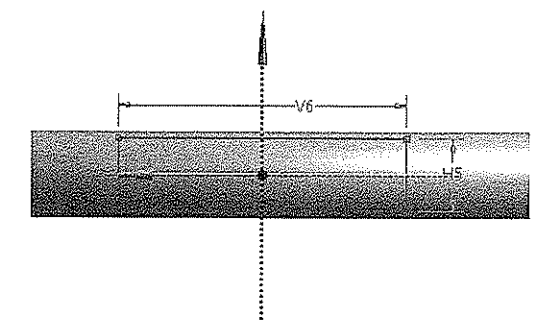

Figure 5-47 The sketch after the horizontal lines are made symmetric
22. Select the bottom horizontal line of the rectangle as the second line; the horizontal lines of the rectangular sketch are now symmetrical about the horizontal axis, as shown in Figure 5-47.
After the dimensional and symmetric constraints are applied to the sketch, the rectangular sketch becomes fully constrained, refer to Figure 5-47.